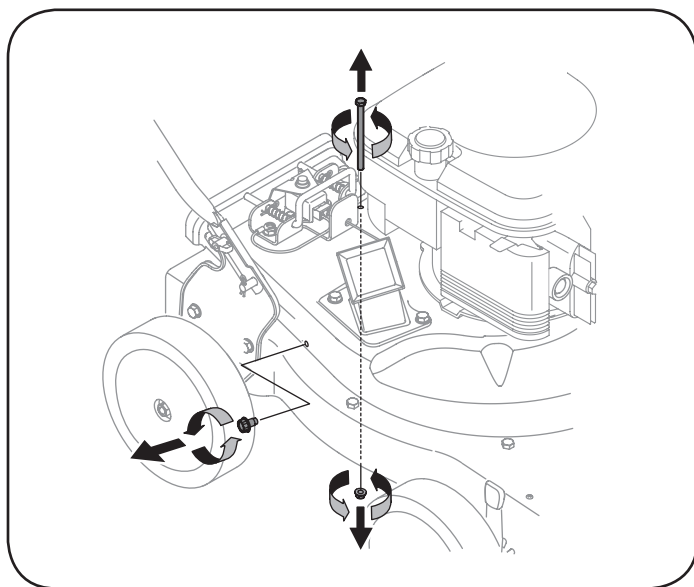

Figure 17
5. Remove self tapping screw on right side of unit that attaches to the flail screen. See Figure 17.
6. Remove hex screw on top of rear housing near mounting bracket and the flange lock nut that secures flail screen. See Figure 17.